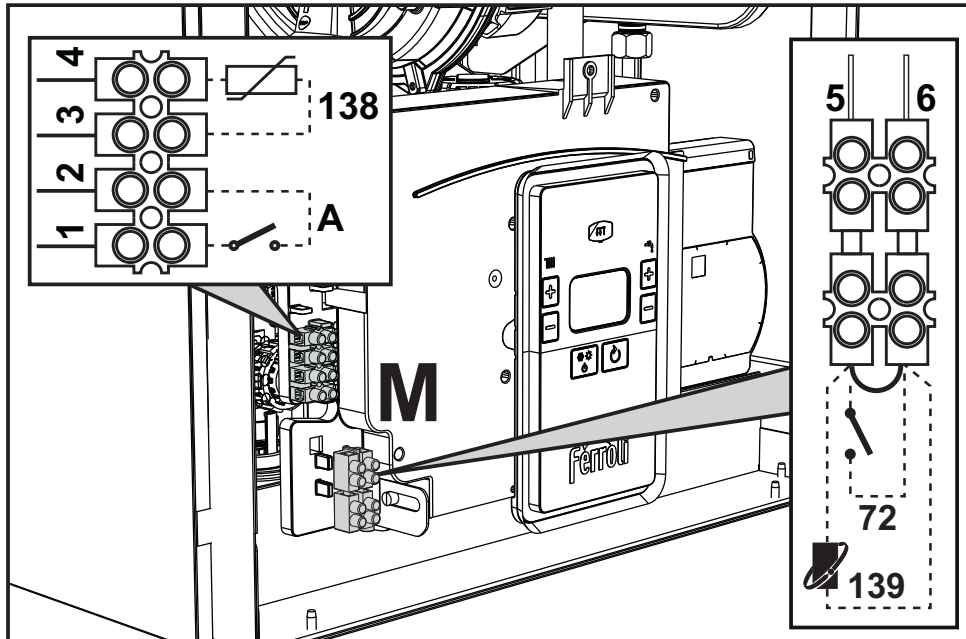
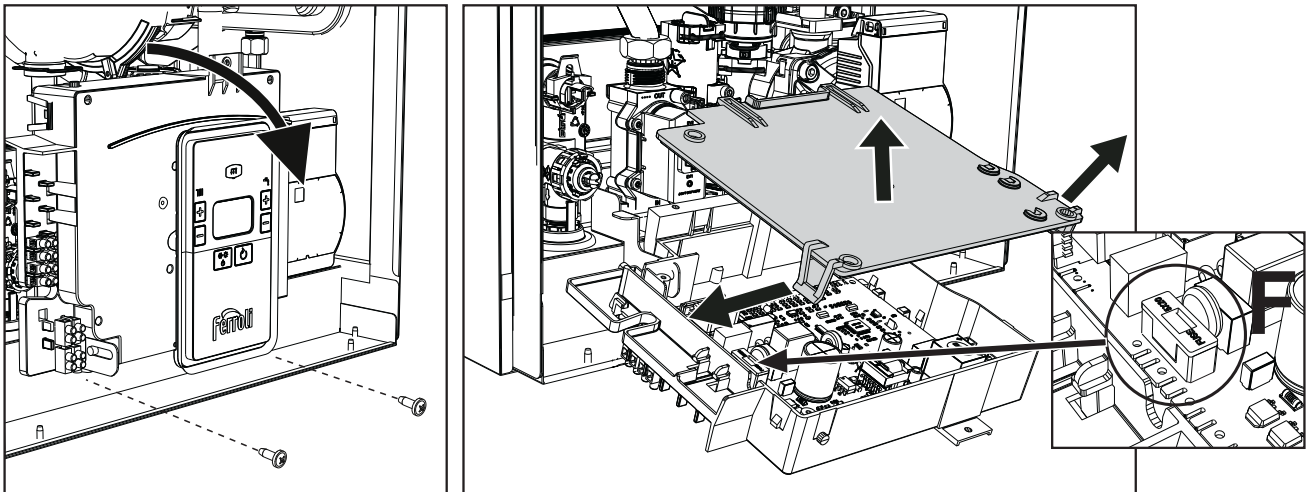

fig. 18
fig. 19
Remove the front panel (*** 'Opening the front panel' on page 303 ***) to access the terminal block (M) and fuse (F) by proceeding as follows (fig. 18 and fig. 19). **The terminals indicated in fig. 18 must be with voltage-free contacts (not 230V).** The arrangement of the terminals for the various connections is also given in the wiring diagram in fig. 45.
ON/OFF (A fig. 19) configuration